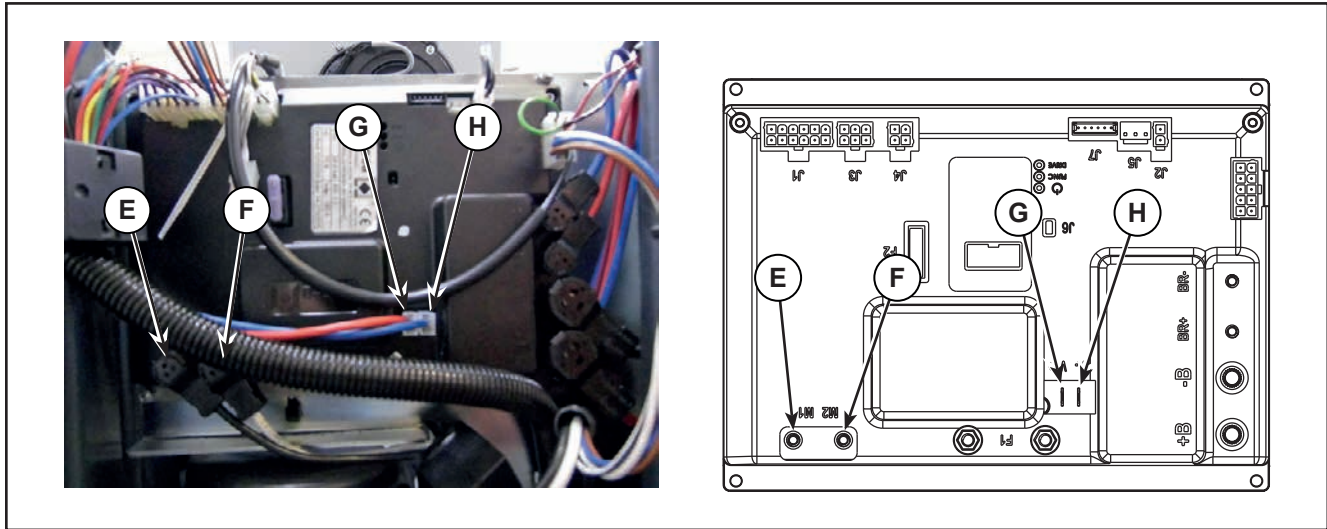

Figure 12:
7. Disconnect the following connections (Figure 12):
- (E) and (F) Drive system motor connection (M1) and (M2).
- (G) and (H) Vacuum system motor connection (VA+) and (VA-).